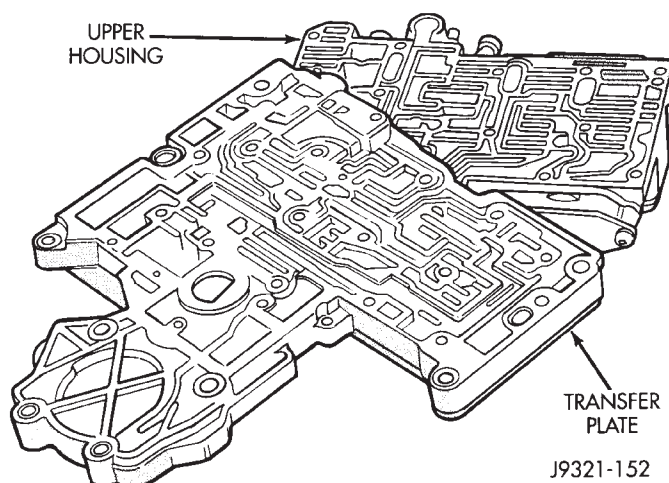

Fig. 107 Removing Transfer Plate From Upper Housing—46RH
(21) Remove transfer plate from upper housing (Fig. 107).